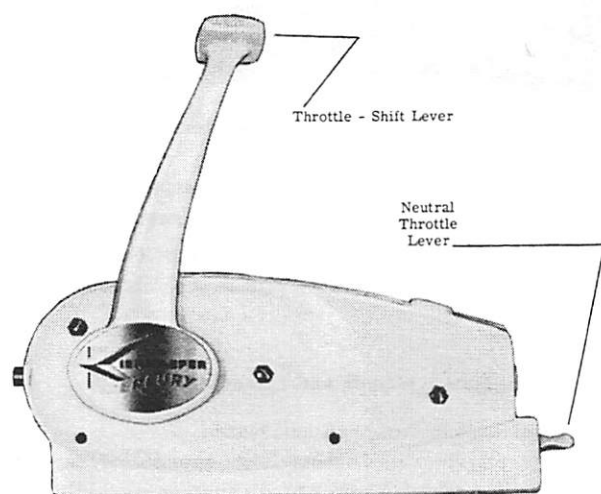

Figure 11. Remote Control Station
1. Place control lever in neutral position and be sure that neutral throttle lever is down all the way before attaching throttle cable to engine. (Figure 11) *NOTE: Throttle cable is one on which nylon end moves last when moving control handle from neutral position.*